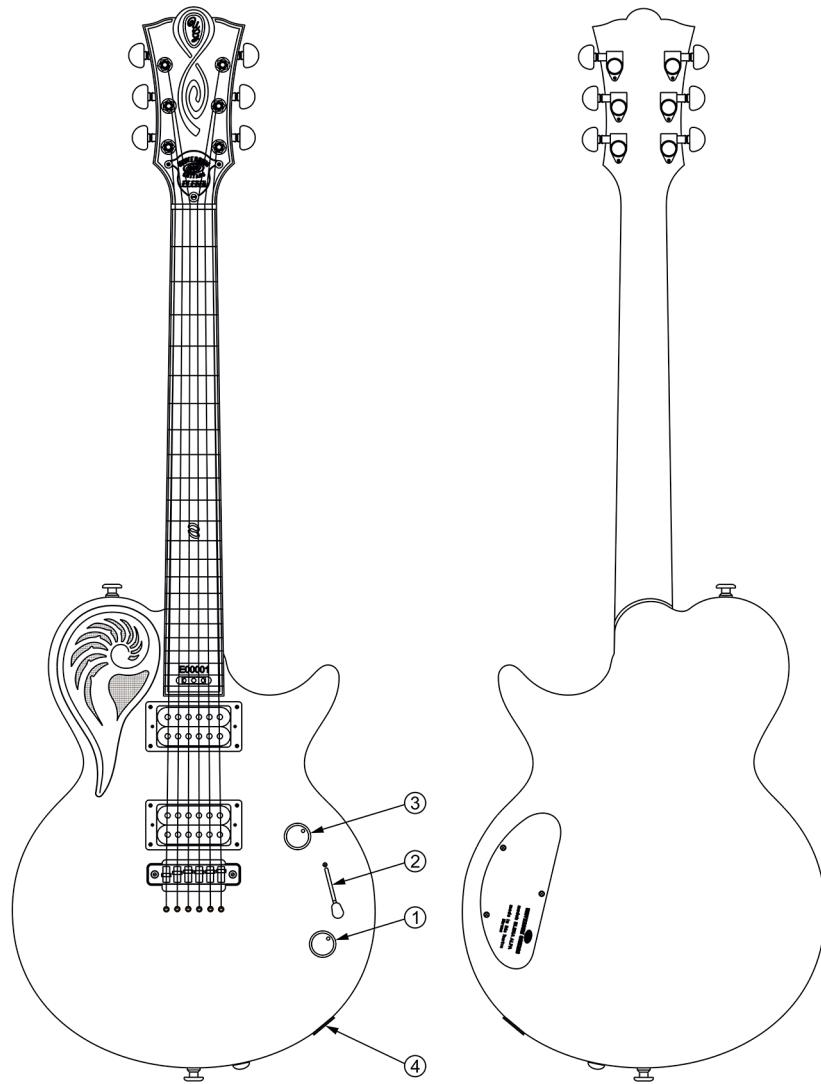

Fig. 21
- Output connector – electromagnetic (Fig.21 Pos.4).
- 1) Tone adjusting potentiometer handle (Fig.21 Pos.1) with a two-position switch of “Push-Pool” type. The switch performs one coil tap in each electromagnetic pickup.
- 2) Tree-position switch-selector handle (Fig.21 Pos.2): switches the combinations of electromagnetic pickup commutation.
- 3) Electric guitar volume adjusting potentiometer handle (Fig.21 Pos.3).